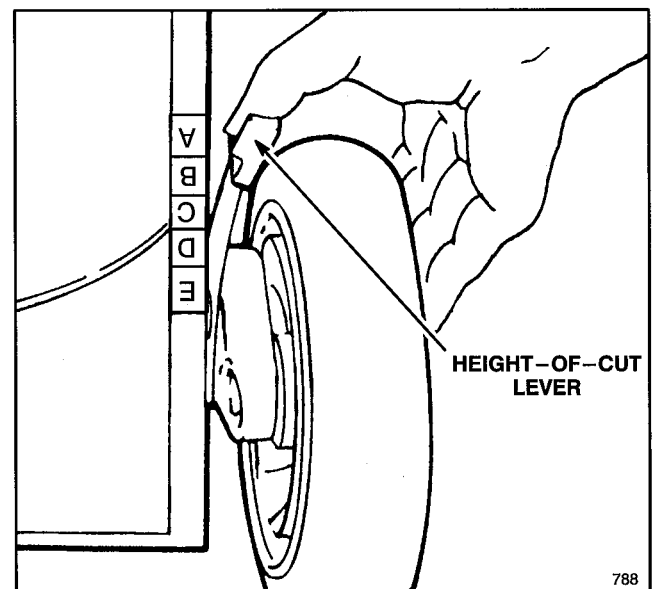

Figure 9
3. Squeeze the mower's height-of-cut lever toward the wheel and move it to the corresponding color/letter on the mower housing (Fig. 9). For easier adjustment, lift housing up so wheel is off ground. **Do not put fingers under housing when lifting.** Ensure pin on height-of-cut lever engages slot in housing. Adjust all wheels to the same color/letter setting.
2. Put all four wheels in "E" height-of-cut position (Fig. 9).